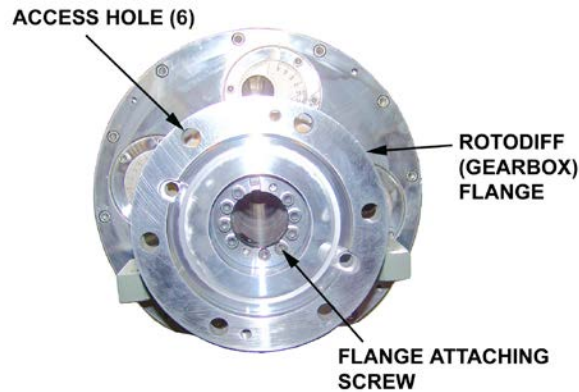

Figure 5-8 Gearbox Flange Attachment
5. Turn flange (Figure 5-8) until large access holes in flange align with retaining screws for outboard flinger cover. Remove screws securing outboard flinger cover to pillow block, and lift and remove flinger cover.